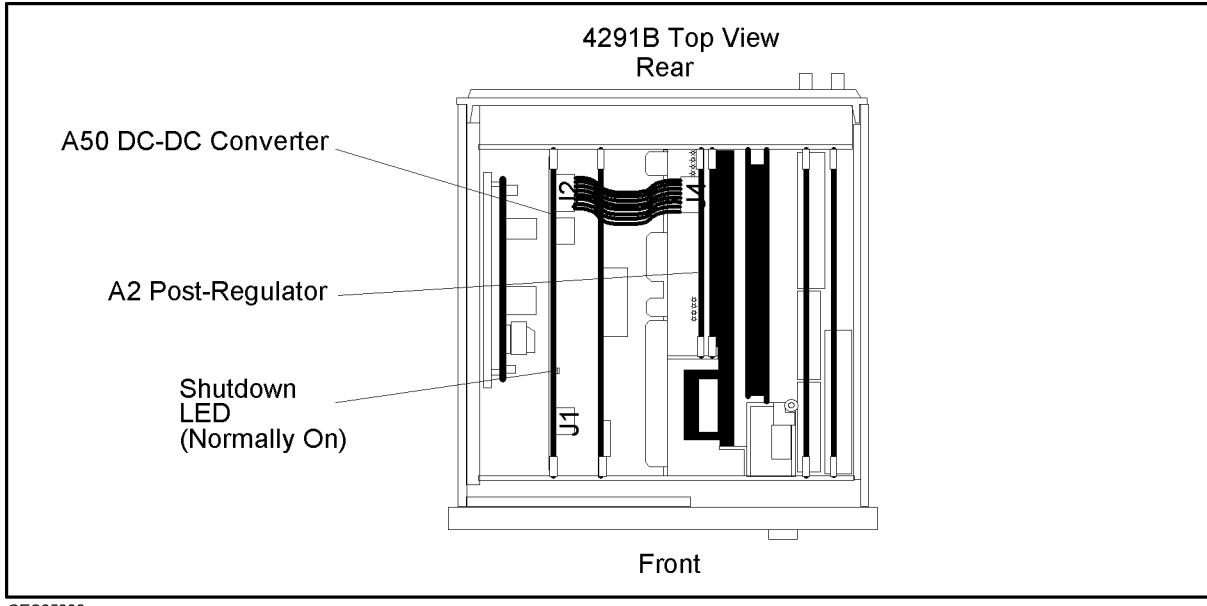

Figure 5-2. A50 SHUTDOWN LED Location
- Look at the A50 SHUTDOWN LED. The LED is normally on. Figure 5-2 shows the SHUTDOWN LED location on the A50 DC-DC Converter.
- d. Look at the A50 SHUTDOWN LED. The LED location is shown in Figure 5-2.